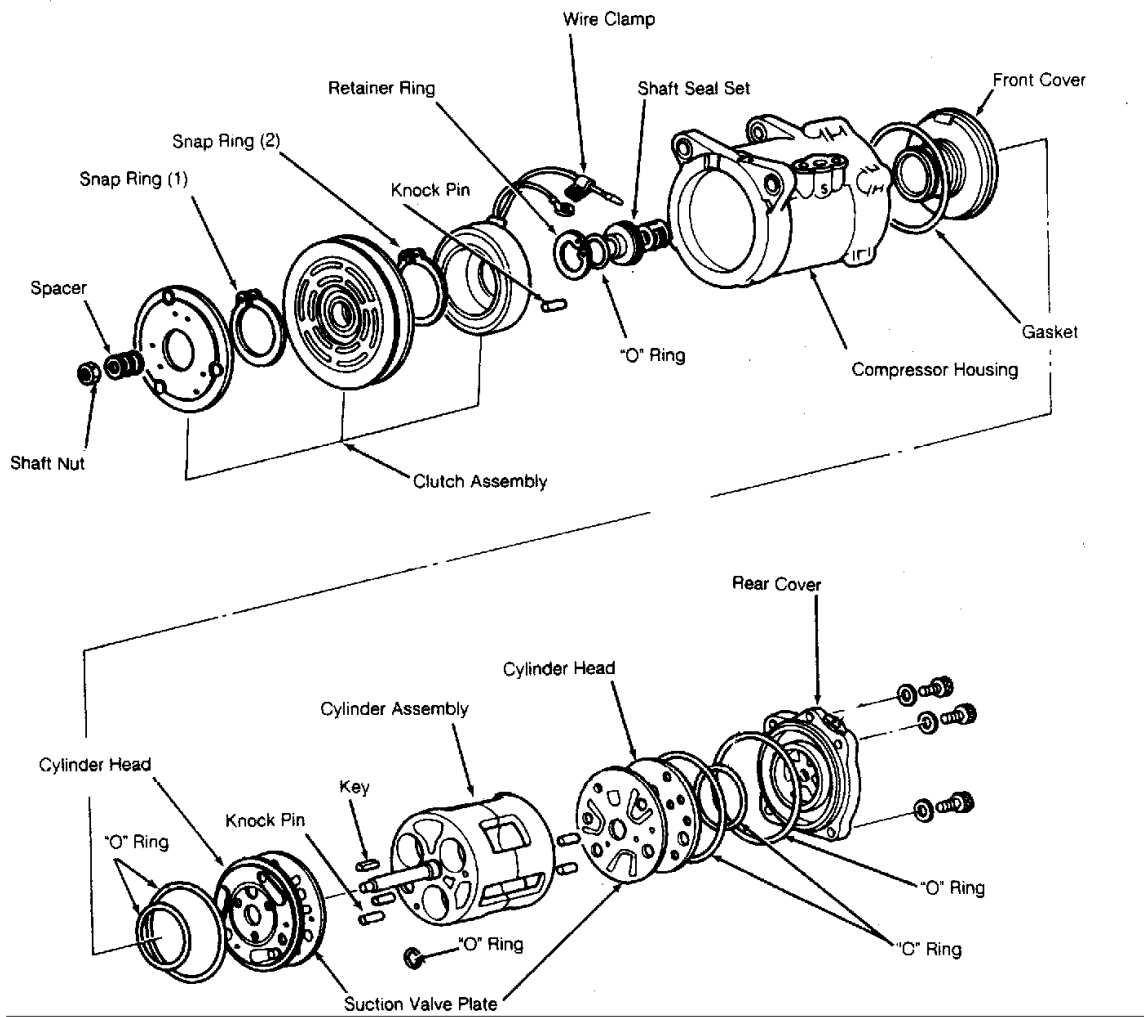

Fig. 9: Hitachi 6-Cylinder Compressor (5-Cylinder Similar)
3. Remove clamping screws that secure coil assembly leads. Remove inner snap ring from coil assembly. Remove coil assembly from front cover. See Fig. 9 .